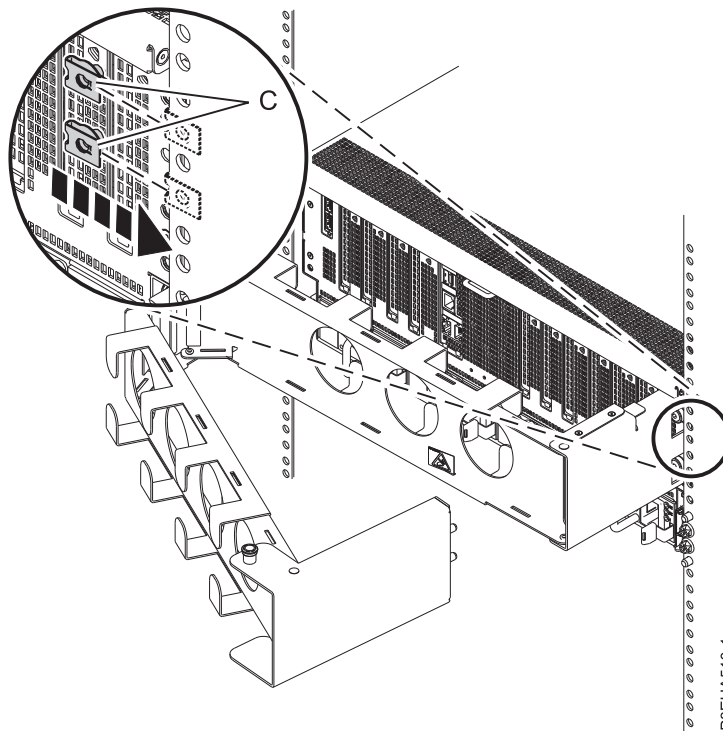

Figure 19. Attaching the nut clips to the rack rail
- Slide the system drawer forward, so that you can access the frame. Attach two nut clips (C) to the rack rail in the location where you will be attaching the outer plate to the rail, as shown in Figure 19.